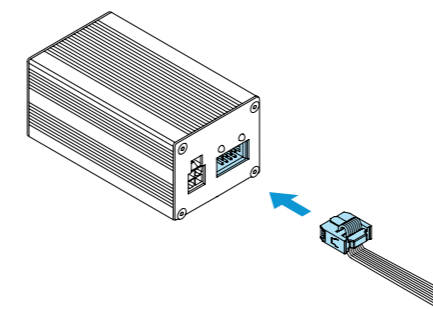

Figure 8.
6. Connect the distance sensor using the cable (3) to the interface conversion block (Figure 8).